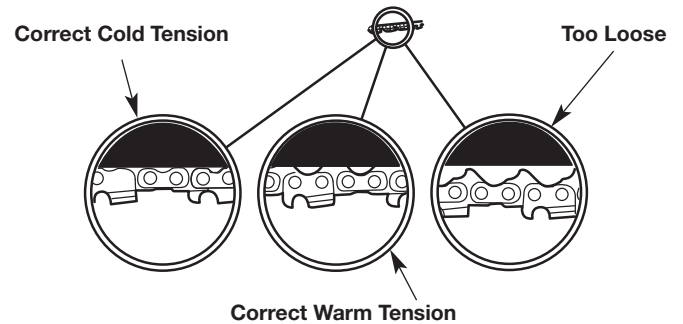

Fig. 33
The desired chain tension depends upon the temperature of the saw chain (Fig. 33).
- Cold Chain Tensioning - The saw chain should fit snugly against the underside of the guide bar. There should be no sag (Fig. 33).
- Warm Chain Tensioning - The saw chain will expand as it heats up during operation. The drive links should hang approximately 1/16 inch (1.3 mm) out of the guide bar groove (Fig. 33).